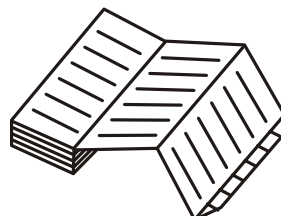

Fig. 3
3. As shown in Fig. 3, insert the recording paper with the "begin" tab placed in the cartridge. Check that the printed side is facing out.
Turn the power switch ON. The pen will move inward on the circular recording paper and stop temporarily at the 0% position (equivalent to the 40°C line). Then the ink pen will move to the position which indicates the measured temperature. (Fig. 3)